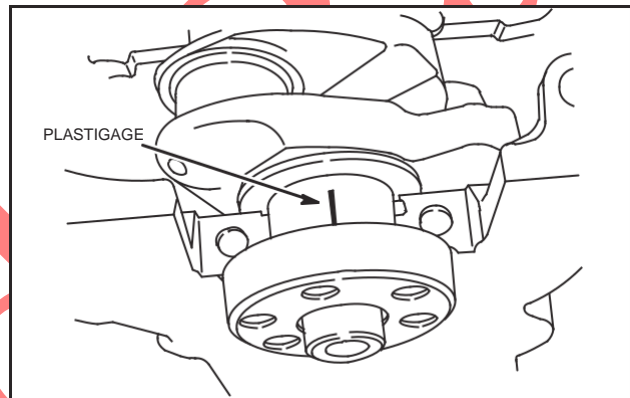

Fig. 4 – Install Plastigage
- a. Lay a strip of plastigage lengthwise on journal, Fig. 4.